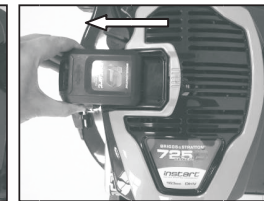

Fig. 7D
2. Remove battery pack by sliding in backwards out of the holder. (Fig.7D)